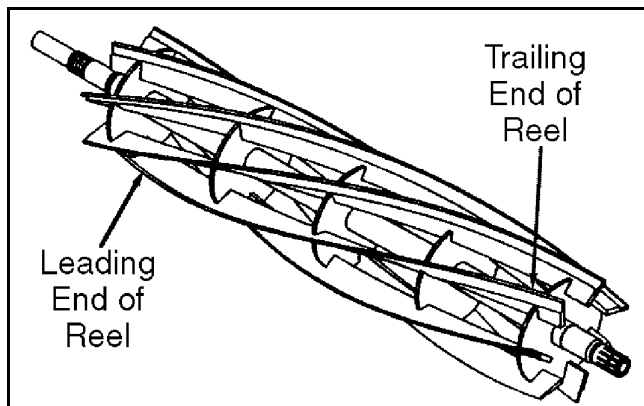

Figure 12D-4. Reel Leading End
7. Start adjustment at the leading end of the reel, followed by the trailing end. The leading end of the reel blade is that end which passes over the bedknife first during normal reel operation (see Figure 12D-4).